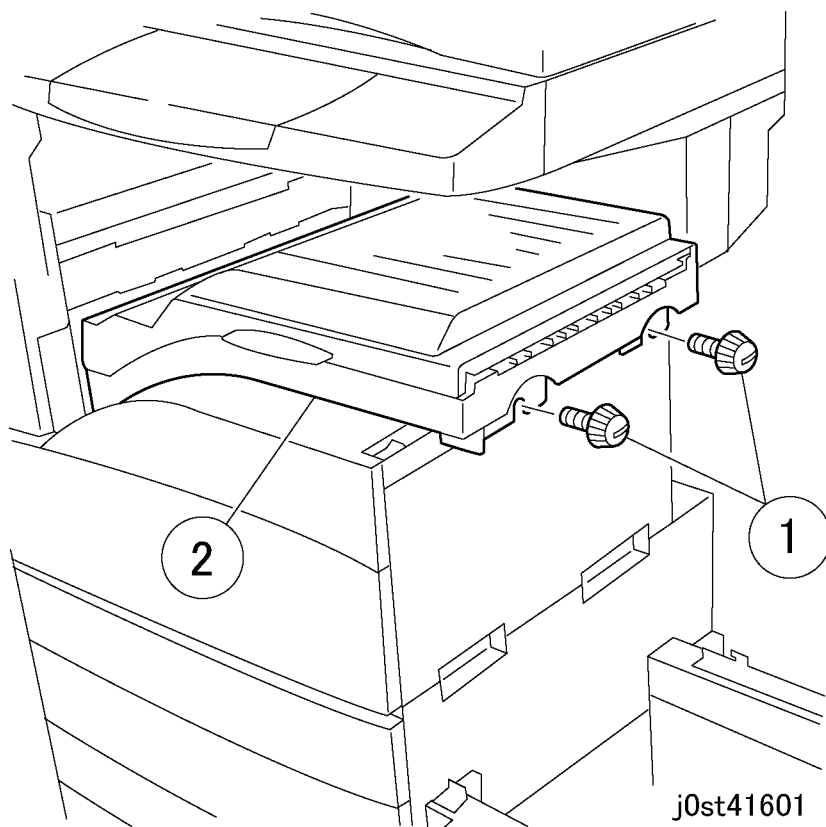

Figure 1 Removing the H-Transport Assembly
2. Move the H-Transport Assembly. (Figure 1)